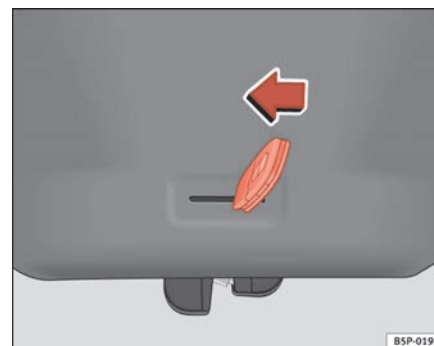

Fig. 67 Boot lid: emergency open
- Insert the key bit in the groove and unlock the locking system, turning the key from right to left, as shown by the arrow ⇒ fig. 67. ■